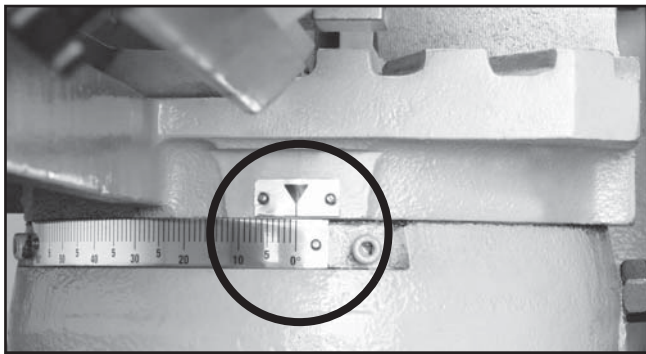

Figure 53. Bow and headstock moved to zero.
3. Raise the bow, move the headstock to zero (**Figure 53**) and lower the bow.